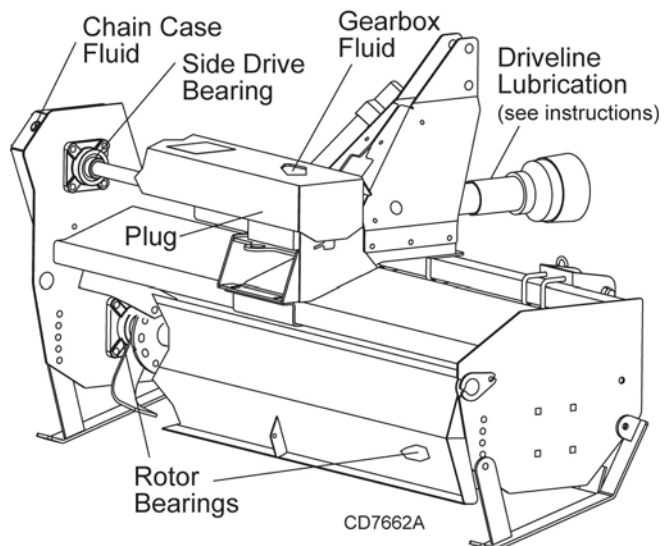

Figure 10. Lubrication Points
2. See Figure 10 for lubrication points and frequency of lubrication based on normal operating conditions. Severe or unusual conditions may require more frequent lubrication.